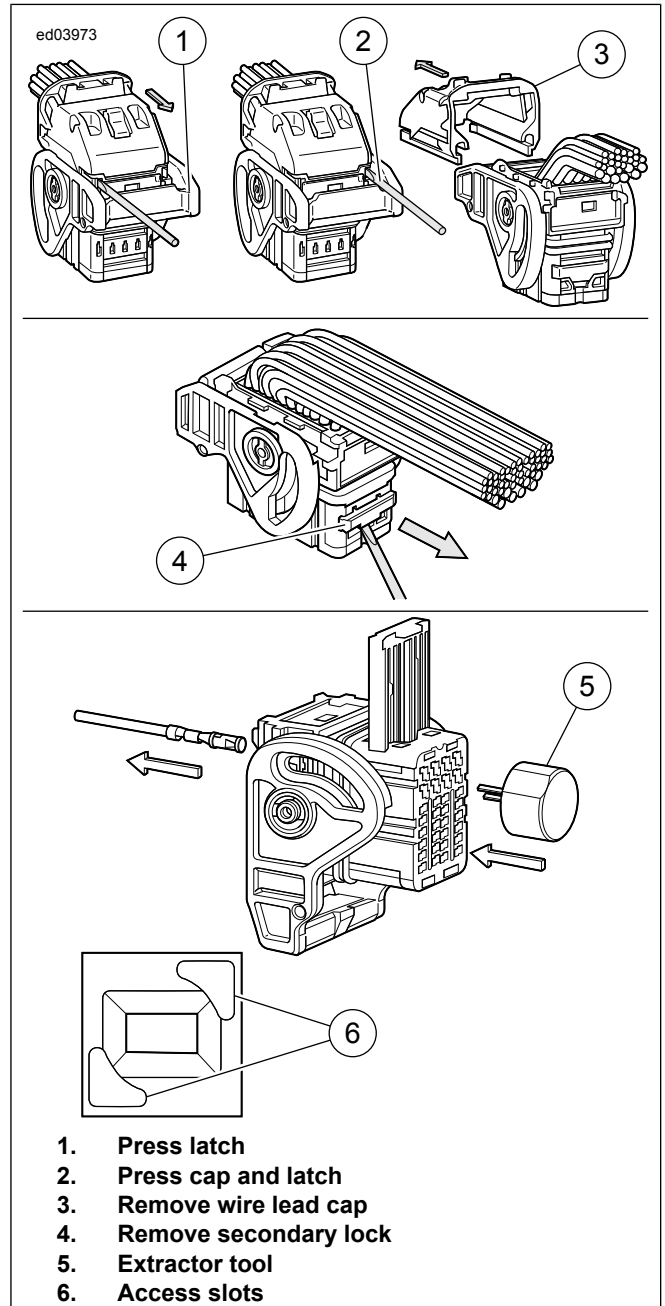

Figure B-31. Terminal Removal
2. See Figure B-31. Open a wire cap latch with a small screwdriver.